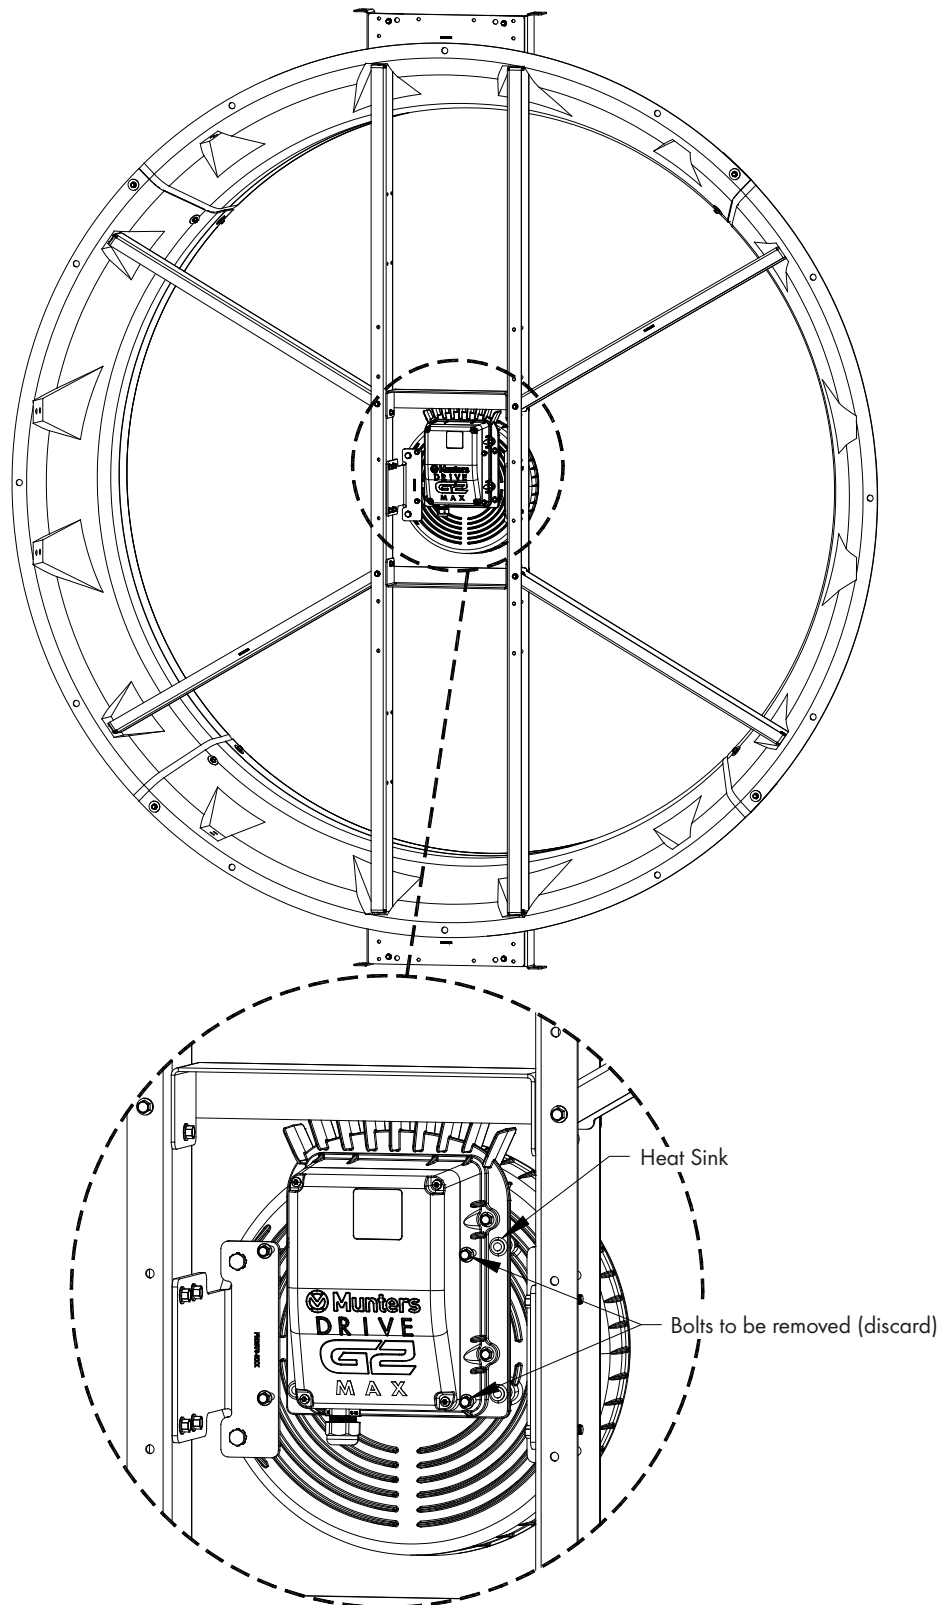

Figure 15
Remove the (4) Bolts holding the Heat Sink with Control Box to the back of the Munters Drive Motor and carefully set the Heat Sink with Control Box in the fan. See Figure 15. Discard the (4) bolts removed.